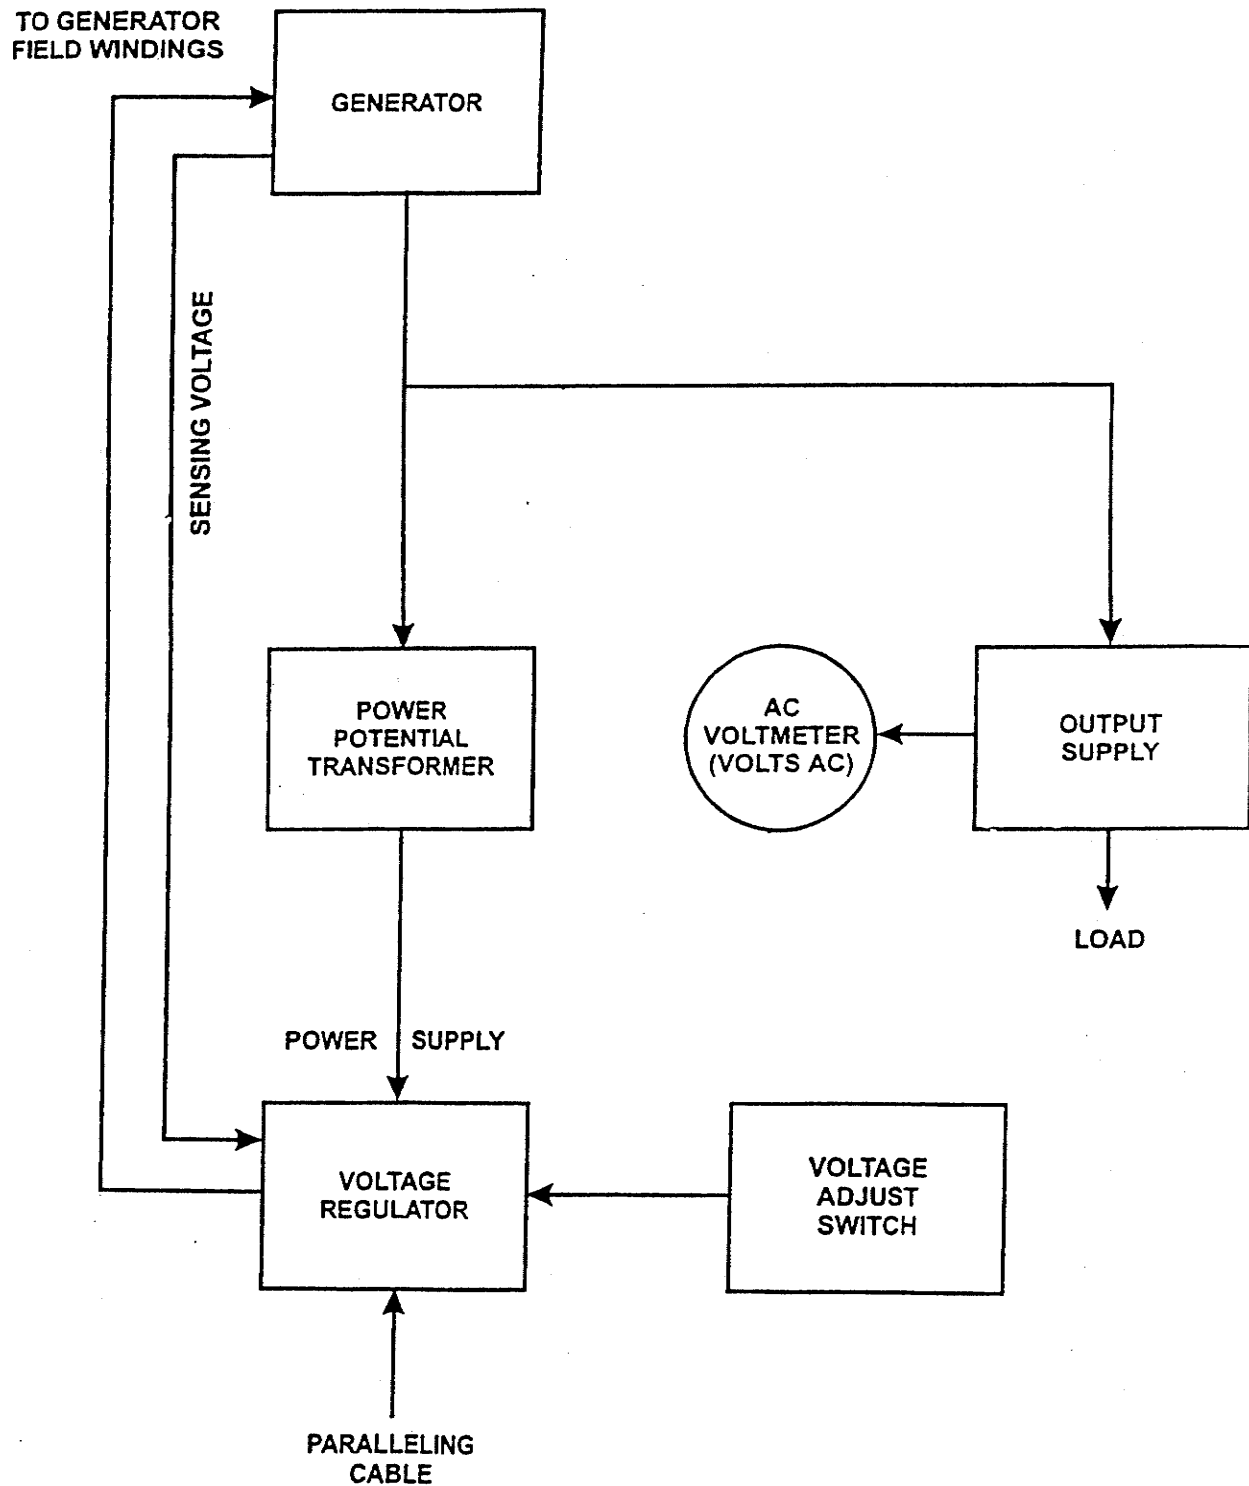

FIGURE 1-21. VOLTAGE REGULATION SYSTEM FLOW DIAGRAM
- The Voltage Regulation System (Figure 1-21) consists of the automatic voltage regulator and power potential transformer. The automatic voltage regulator senses and controls generator output voltage which is operator adjustable within the design limits by use of the VOLTAGE ADJUST switch. The power potential transformer provides operating power to the automatic voltage regulator module. Generator output voltage is indicated on the CIM display screen.